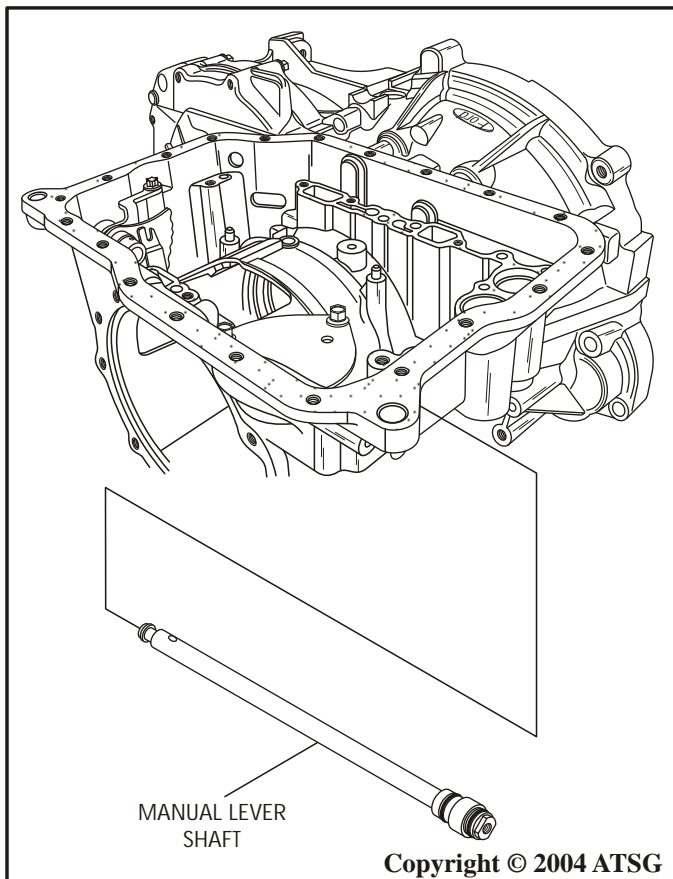

Figure 154
8. Lubricate the manual lever shaft "O" ring seals and install the manual lever shaft, as shown in Figure 154.